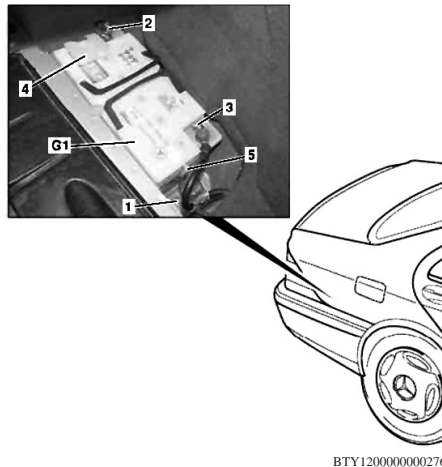

Fig. 1 Battery removal
4. Remove bolt from cable holder (1), Fig. 1.
5. Disconnect battery ground cable (3) from battery, Fig. 1.
6. Remove gas vent line (5) from battery, Fig. 1.
7. Lift positive pole cover (4) upward, Fig. 1.
8. Remove positive cable (2) from battery, Fig. 1.
2. Connect positive cable (2) to battery, Fig. 1.
3. Close positive pole cover (4), Fig. 1.
4. Connect gas vent line (5) to battery, Fig. 1.
5. Connect battery ground cable (3) to battery, Fig. 1.
6. Install bolt into cable holder (1), Fig. 1.